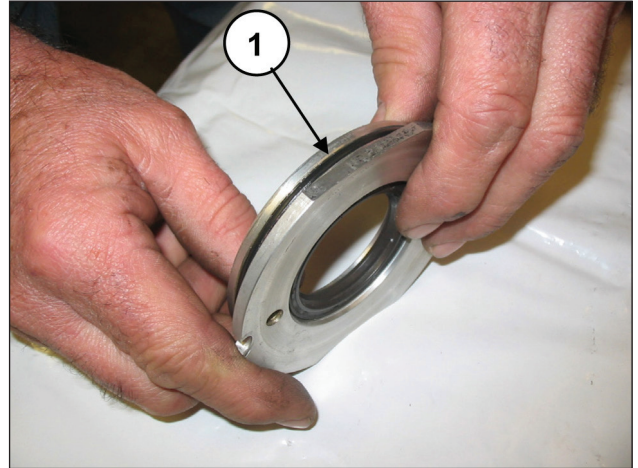
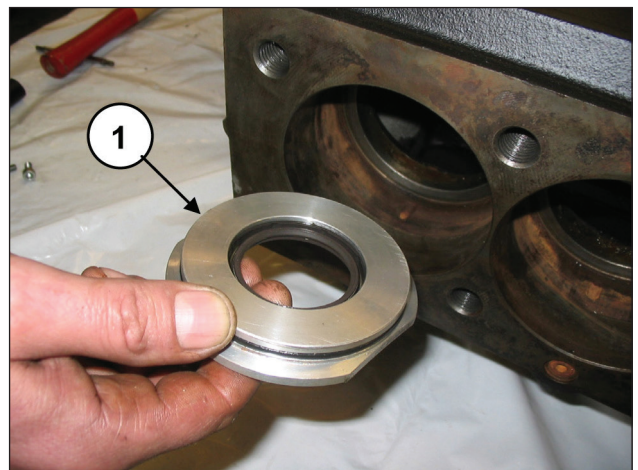

Fig. 140
Fig. 141
Position the O-ring (pos. ①, Fig. 140) in the seat of the oil seal cover and insert the assembly mounted in the casing into the seat (pos. ①, Fig. 141).